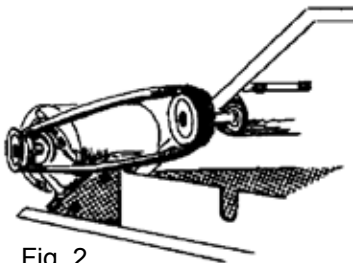

Fig. 2
- Place motor pulley on the motor shaft and securely tighten the set screw on flat of motor shaft. (Fig. 2)